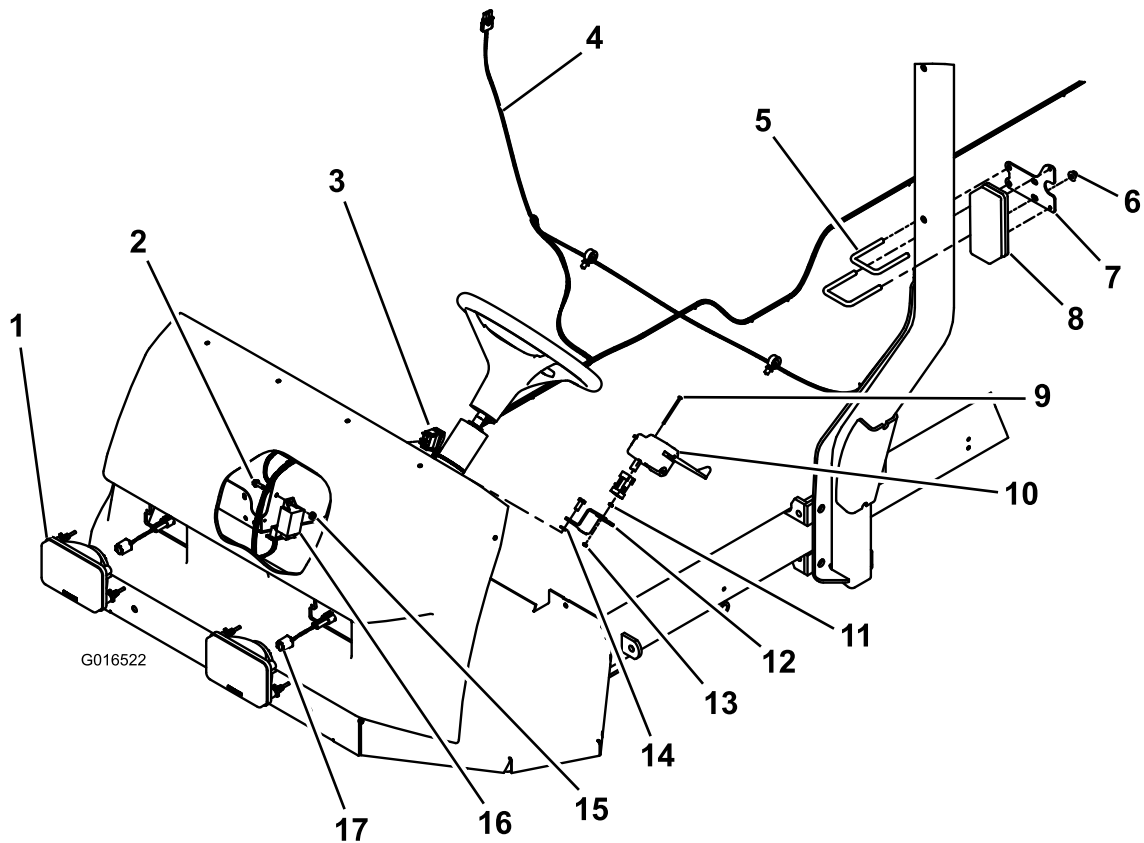

Figure 1
3. Insert the new main beam lights (Figure 1), and secure them with the retainers that you removed in step 2.
Install a position light onto each side of the rollover bar 58 inches (147 centimeters) from the ground to the top of the bracket as shown in Figure 1.
1. Remove the 2 bolts on the left-hand side of the steering column (Figure 1).
Install the flasher module using a hex head flange screw and a hex flange nut (Figure 1).